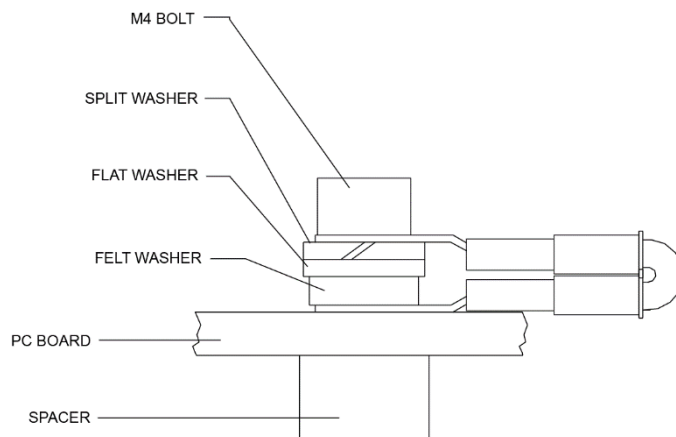

Figure 45. Ground Jumper
2. Using a 3 mm Allen wrench and a 7mm wrench remove the nuts from the bolts that secure the Spare Boards together. You will be using these bolts to secure the spare set in your system. **DO NOT** change the position of any of the bolts. The bolt containing the felt washers and ground jumper must remain in the same position (see Figure 45).